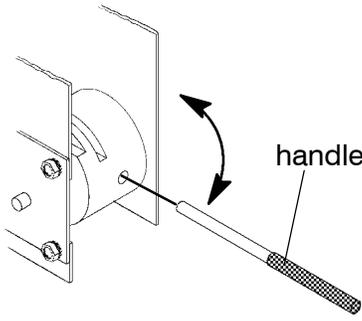

Figure 1-6
- 600 and 800 amp. F–design*                See Figure 1-6.